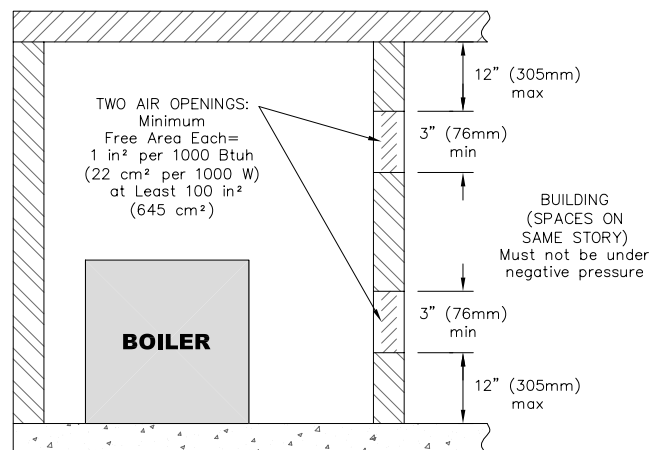

Figure 1.2: Air Openings – All Air from Indoors on the Same Floor
- a. **Combining spaces on the same floor:** Provide two permanent openings communicating with additional spaces that have a minimum free area of 1 in2 per 1000 Btu/hr (22 cm2 per 1000 W) of the total input rating of all gas fired equipment but not less than 100 in2 (645 cm2). One opening is to begin within 12 inches (305 mm) from the top of the space and the other is to begin within 12 inches (305 mm) from the floor. The minimum dimension of either of these openings shall be 3 inches (76 mm). See Figure 1.2 for an illustration of this arrangement.